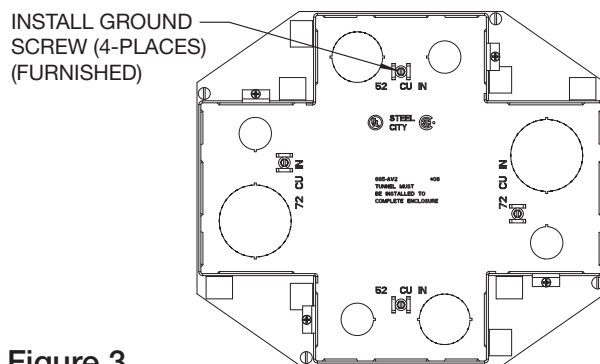

Figure 3
2. Install (4) ground screws. See figure 3.